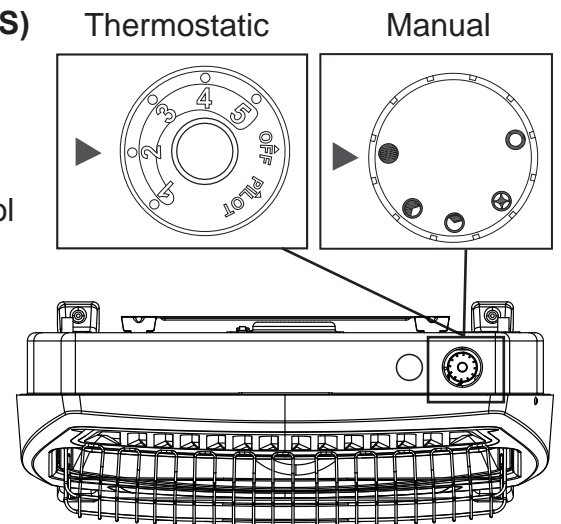

Fig. 25 - Control Knob Position
The thermostat used on this heater senses the room temperature. At times the room may exceed the set temperature. If so, the burner will shut off. The burner will cycle back on when room temperature drops below the set temperature. The control knob can be set to any comfort level between "HIGH" (5) and "LOW"(1) (See Fig. 25).
Manual valves remain burning in the desired setting until manually turned to OFF "O"(See Fig. 25).